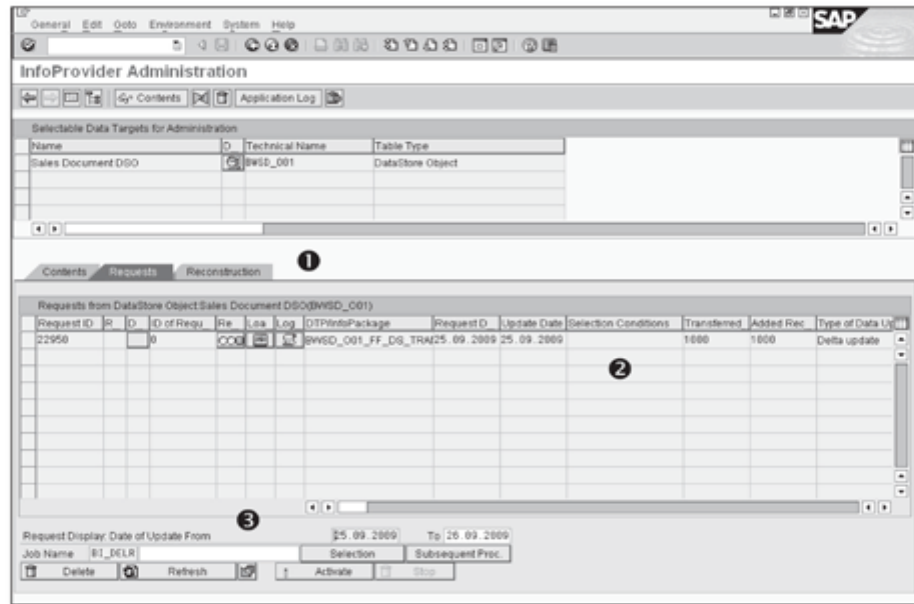

Figure 14.2 Administration Tasks for a DSO
Click the Manage option in the context menu (2), and the InfoProvider Administration screen appears (Figure 14.2). The upper part has the details of the InfoProvider, and the lower part has three tabs: Contents, Requests, and Reconstruction (2 Figure 14.2). The lowest part of the screen in each tab has relevant options for executing the administration and maintenance tasks (3).